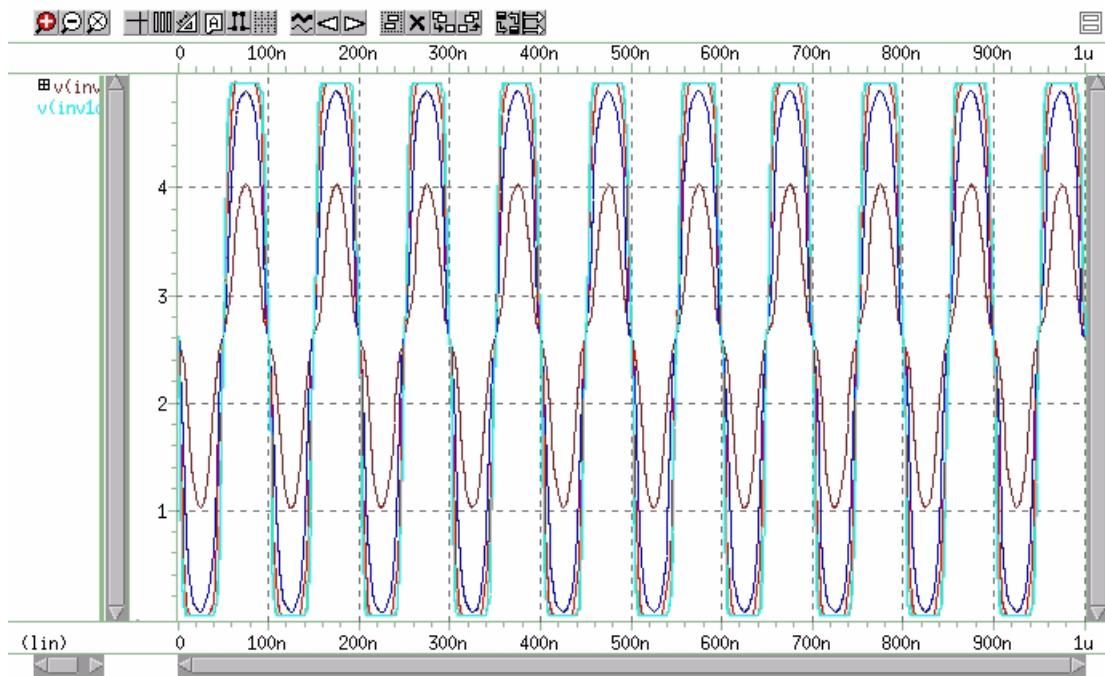
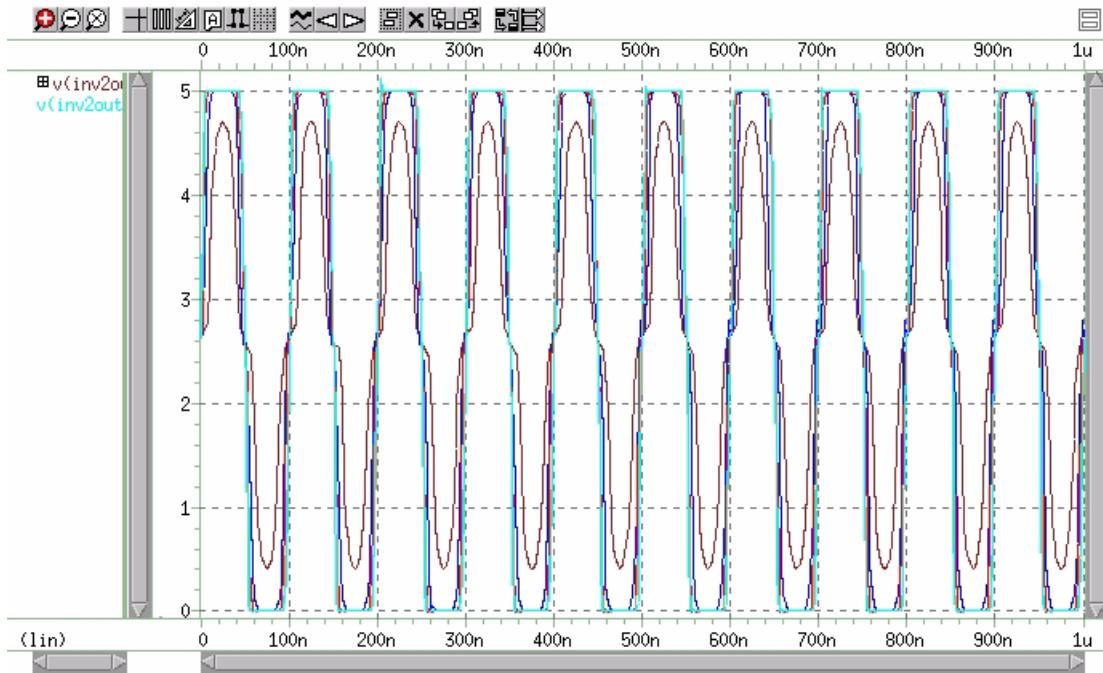

Figure 237 Plot of Voltage on Node *inv1out* vs. Time
Figure 238 Plot of Voltage on Node inv2out vs. Time
8. Repeat Step 6 and Step 7 to view the signals  $v(inv1out)$  and  $v(inv2out)$  (Figure 237 and Figure 238 on page 922).